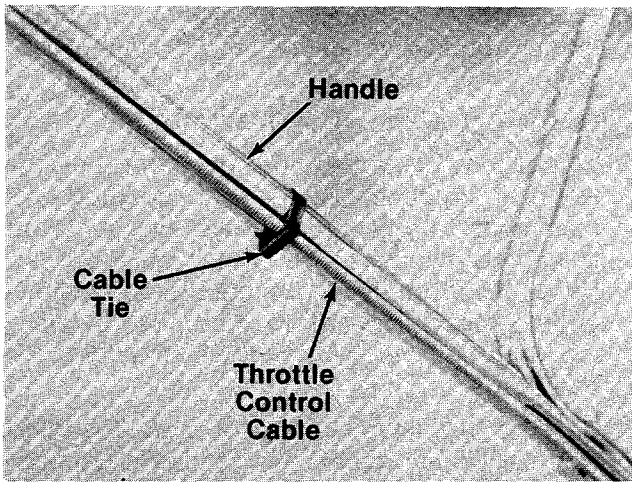

FIGURE 4.
- 5. Secure throttle control cable to handle with ties provided. See figure 4. ←